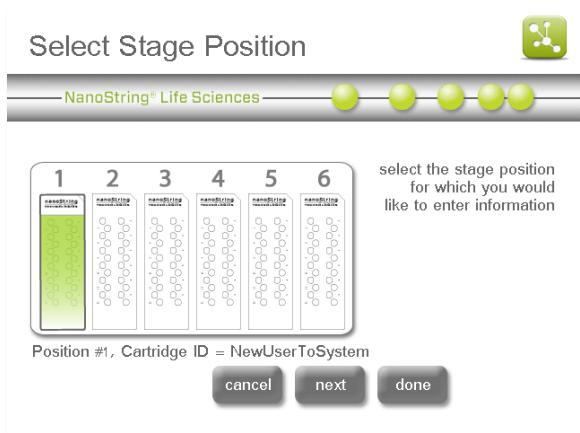

Figure 88: The ‘Select Stage Position’ screen.
- The ‘Select Stage Position’ screen will appear (**Figure 88**).